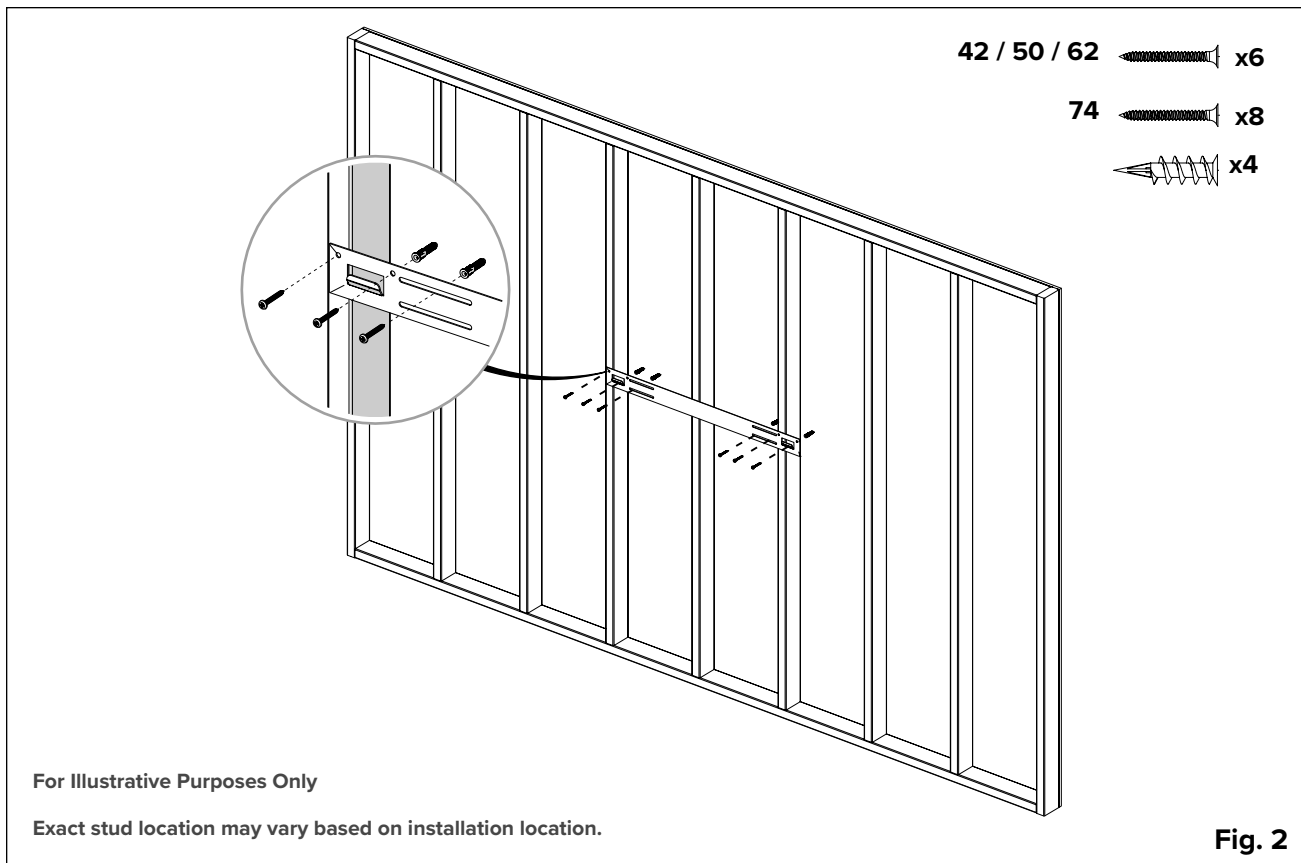

**Fig. 1**
4. Place the appliance face down on a soft, non-abrasive surface. Remove the bracket from the back of the appliance by removing the screws (**Fig. 1**). Set the bracket aside and discard the screws.